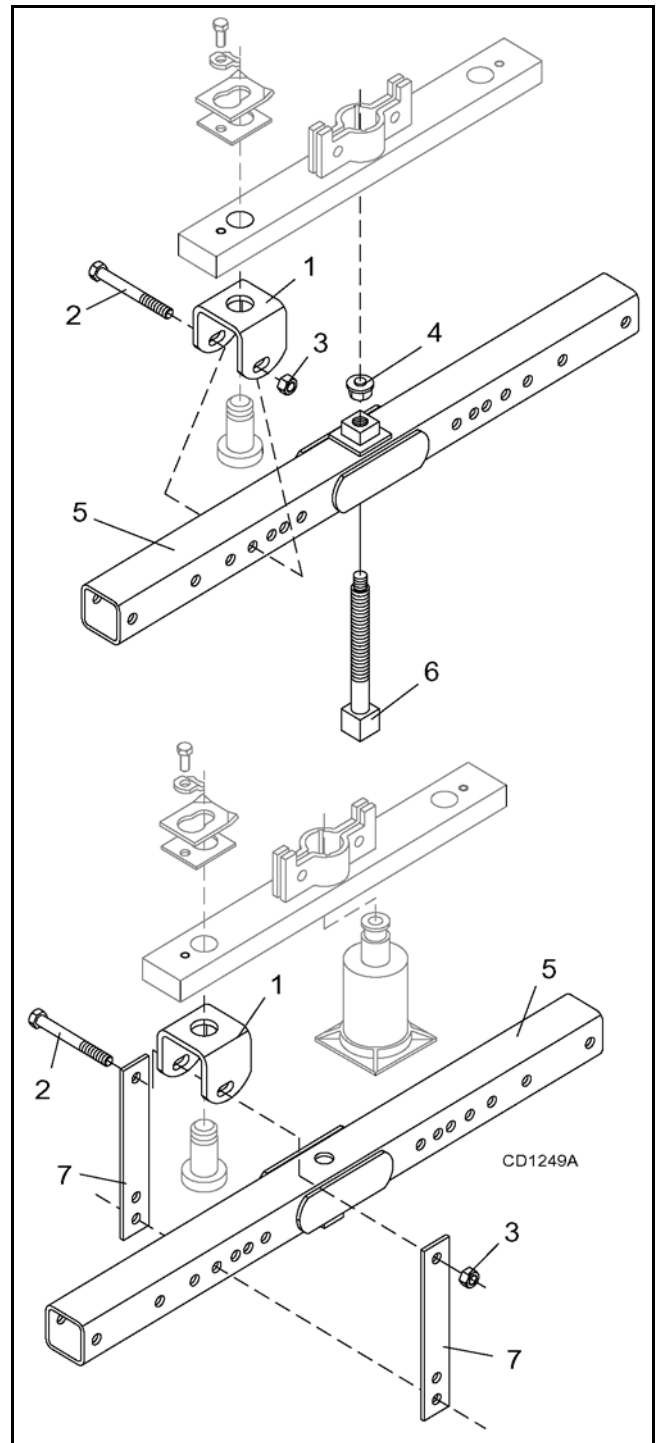

Figure 15. Crossbar Removal
NOTE: You will need to use either the puller screw (Item 6, Figure 15) or a small hydraulic jack to remove the crossbar.
3. Refer to Figure 15. Remove cotter pin from bottom of crossbar and remove nut and washer.
4. Attach a clevis (1) to each end of crossbar, using blade pins, spacers, keyhole plates, and blade pin clips.
5. Position tube assembly (5) with threaded nut toward crossbar for puller screw removal or down for hydraulic jack removal.